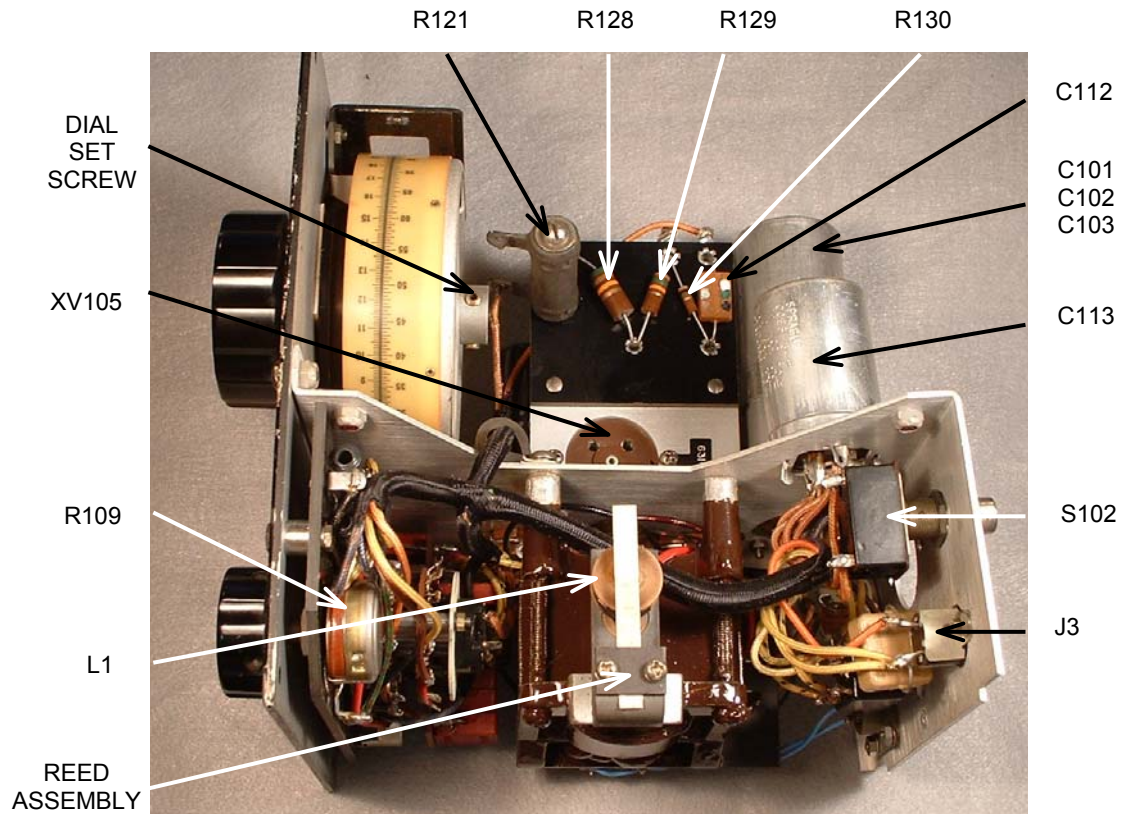

Figure 4-11. TS-805A/U Stroboscope Right Side View.
(7) *Loosen the setscrew in the collar of the dial scale (fig. 4-11).*
(9) Remove the defective dial lamp by turning it counterclockwise in its lamp holder.
(4) *Tighten the setscrew in the collar of the dial scale (fig. 4-11).*
#### **4-13. Reed Assembly Replacement (fig. 4-11 and 4-12).**
- (1) Remove the flasher tube (para. 4-10a).
- (2) Tag and disconnect the reed assembly coil wires (fig. 4-11 and 4-12).
- (3) Remove two screws attaching the reed assembly to the frame of the power transformer and remove the reed assembly.